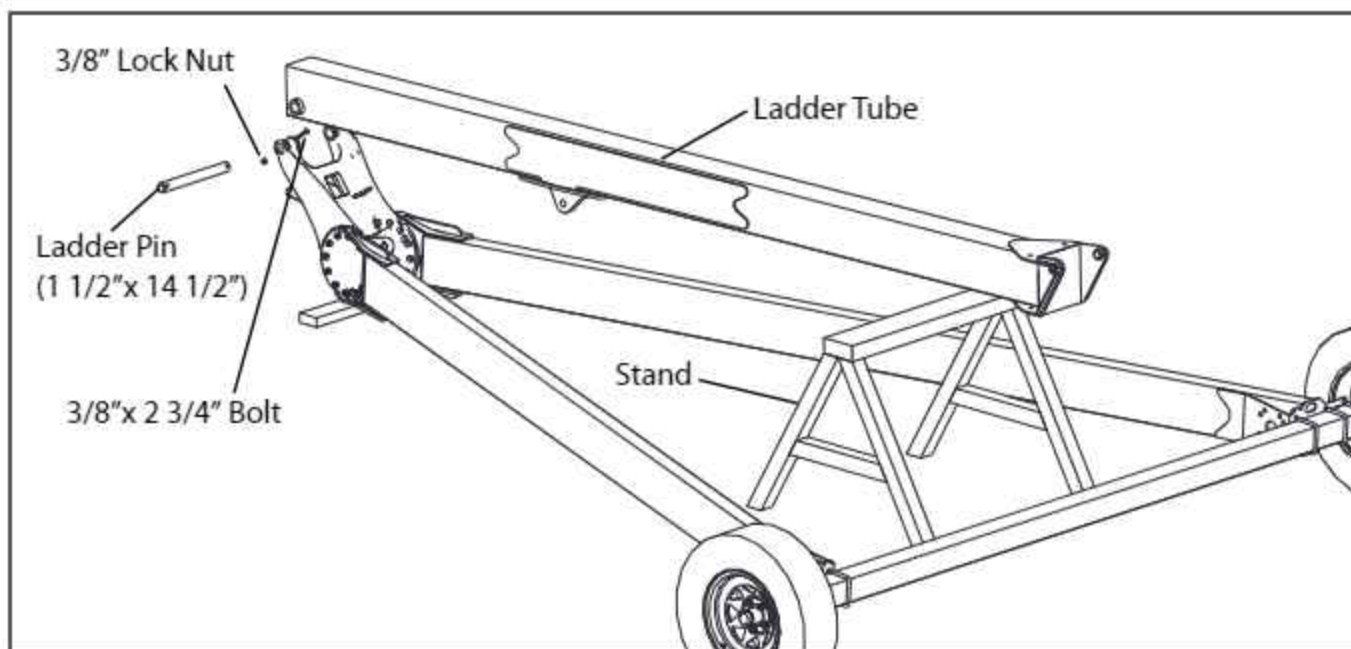

FIG. 3-2. Installing the Ladder Tube
4. Place a stand between the Lift Arms as shown in Fig. 3-2. Attach the Ladder Tube to the Lift Cross using the 1 1/2" Ladder Pin (1 1/2" x 14 1/2" long). Secure in place using two 3/8" x 2 3/4" bolts and lock nuts.